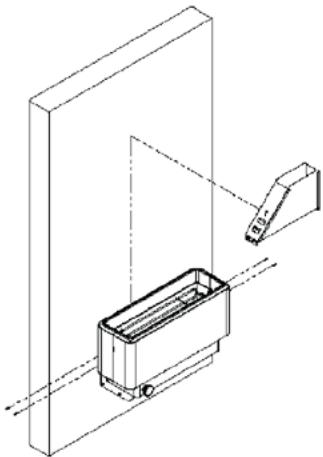

Figure 3.6: Installation of flue socket on the device and fastening with screws
**3.2.5.** Put the flue socket back and secure with four screws (figure 3.6).